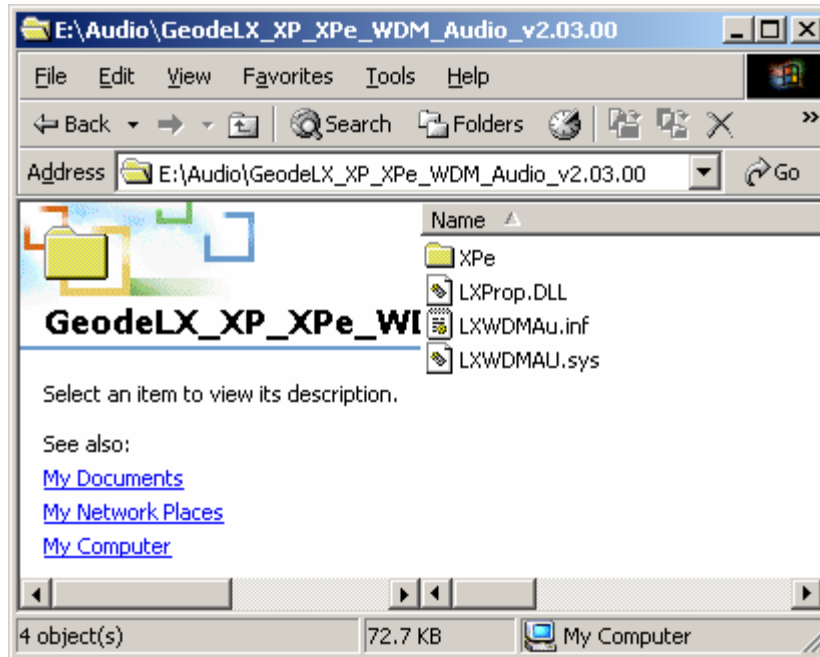

Figure 7-24: Location Browsing Window
Step 8: Select "X:\Audio\WDM_Audio_v2.03.00" directory in the location browsing window, where "X:" is the system CD drive (Figure 7-24).